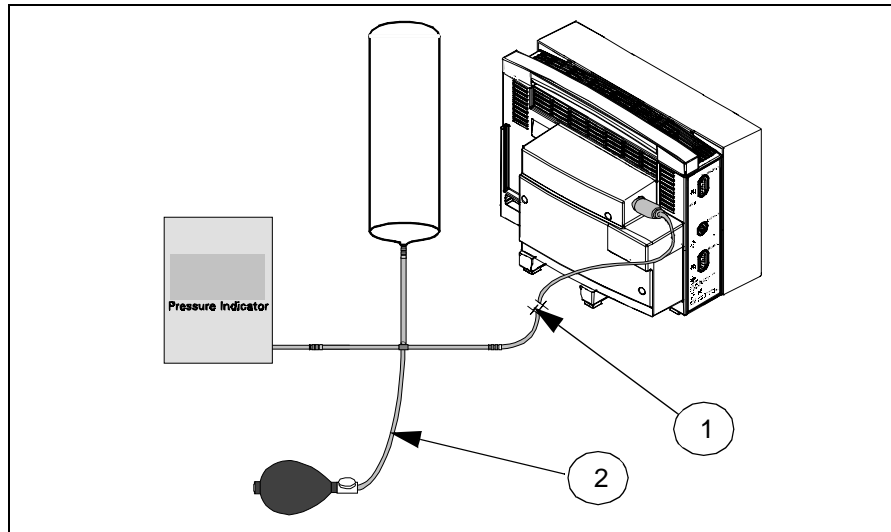

Figure 4-1 NBP Calibration Check / Calibration Test Setup
Set up the NBP Calibration assembly (Art. No. 28 77 855 EE54U) as illustrated in Figure 4-1. Assume that pneumatic leakage is within specifications before continuing to Section 10.2, Calibration Check.
- 3) Clamp pneumatic hose (with hemostat or clamp) between T-connector and monitor (① in Figure 4-1), and using pressure bulb, increase pressure to  $250 \pm 5$  mmHg. Then clamp hose at inflation bulb (② in Figure 4-1), and let pressure stabilize for 1 minute. *Do NOT run pump.*